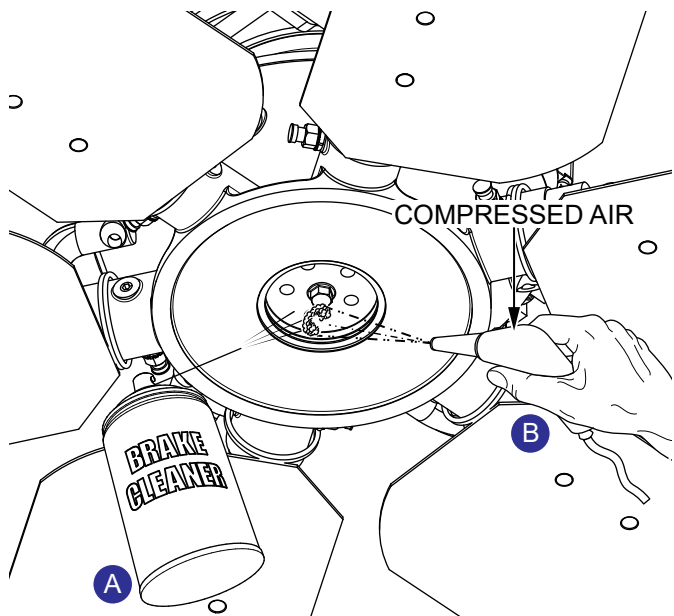

**Figure 6. Remove Left-Side Spider Bolts**
2. Remove and discard the five existing M12-1.75 x 30 mm SHC bolts (Figure 6) securing the left-side spider assembly to the bottom of the left-side hydraulic motor.